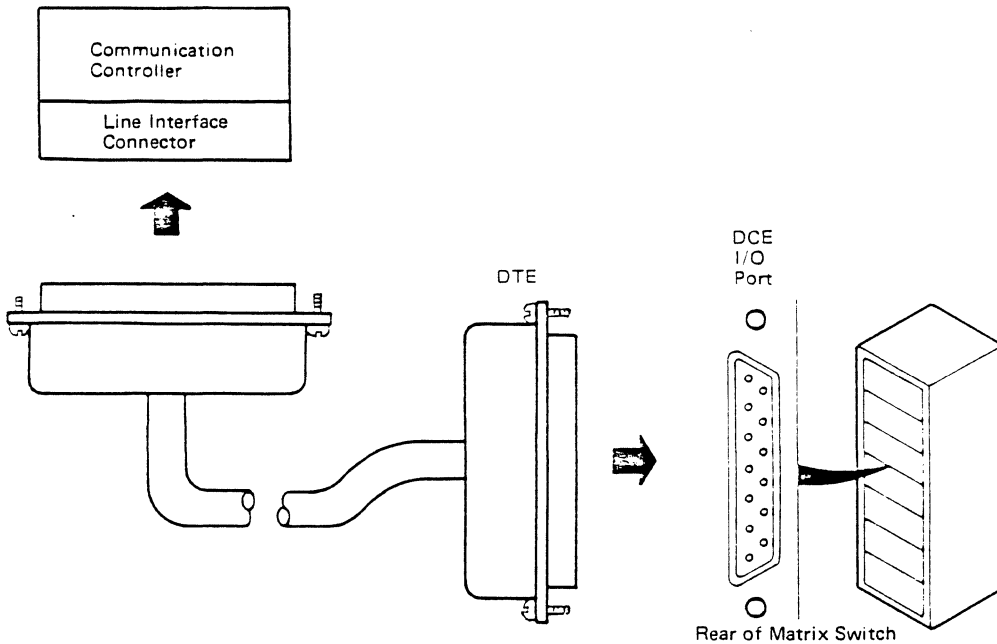

Figure 8-10. Connecting the Communication Controller to the Matrix Switch Using the Modem Attach Cable
1. Connect the DTE end of a communication controller modem attach cable to the DCE I/O port on the Matrix Switch I/O Port Connector Panel (Figure 8-10).